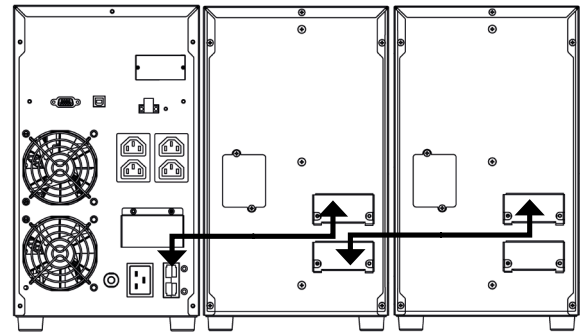

Fig. 9. Connection to battery modules.
Plug the connector at one end of the cable into the corresponding socket on the SPS ADVANCE T and the one on the other end into the battery module (see Fig. 9).
- Fig. 9 shows, by way of example, the connection of a 3 kVA device to two battery modules. For a larger number, proceed in a manner similar to those shown in the illustration.